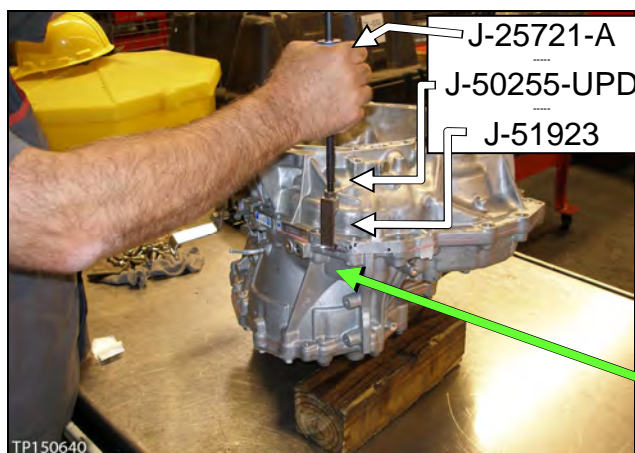
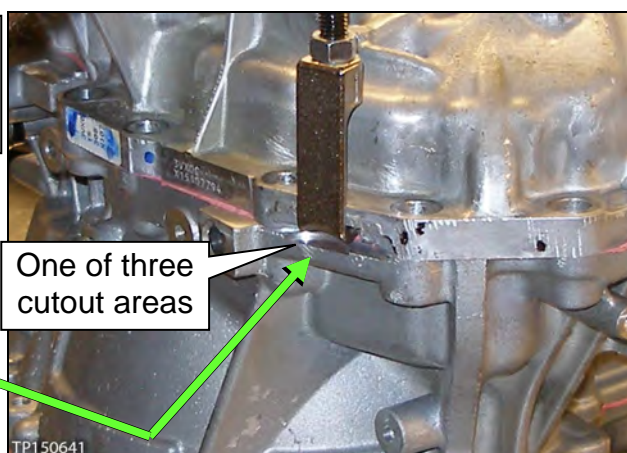

Figure 2B
Figure 3B
- Use Slide Hammer J-25721-A and Slide Hammer Bolt J-50255-UPD with J-Hook J-51923 at the cut out areas similar to the one shown in Figure 2B and Figure 3B.